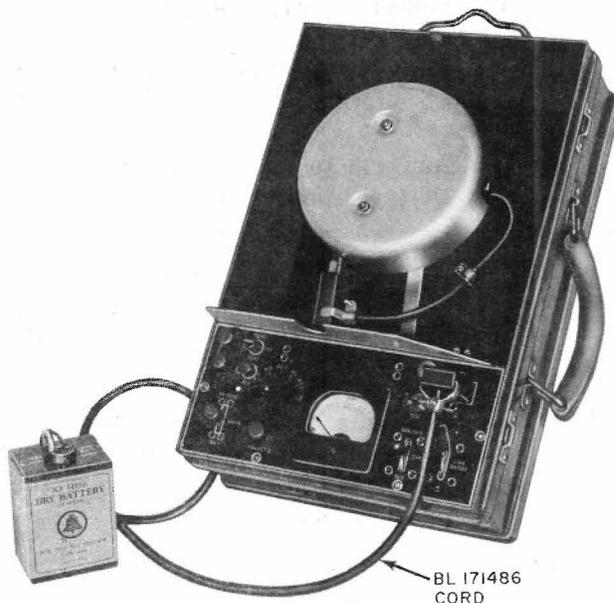

Fig. 17—Testing Individual Battery
9.02 To test the individual KS-14196 batteries, remove the battery to be tested and insert the special BL-171486 test cord (Fig. 17). The other end of the test cord should be plugged into the jack in the test panel. Then with the LINE SHORT key operated to \mp position and the 630V switch to OFF, throw the OHMS key momentarily to BRKDNW position. If the current flow is less than 2 amperes, the battery should be replaced.